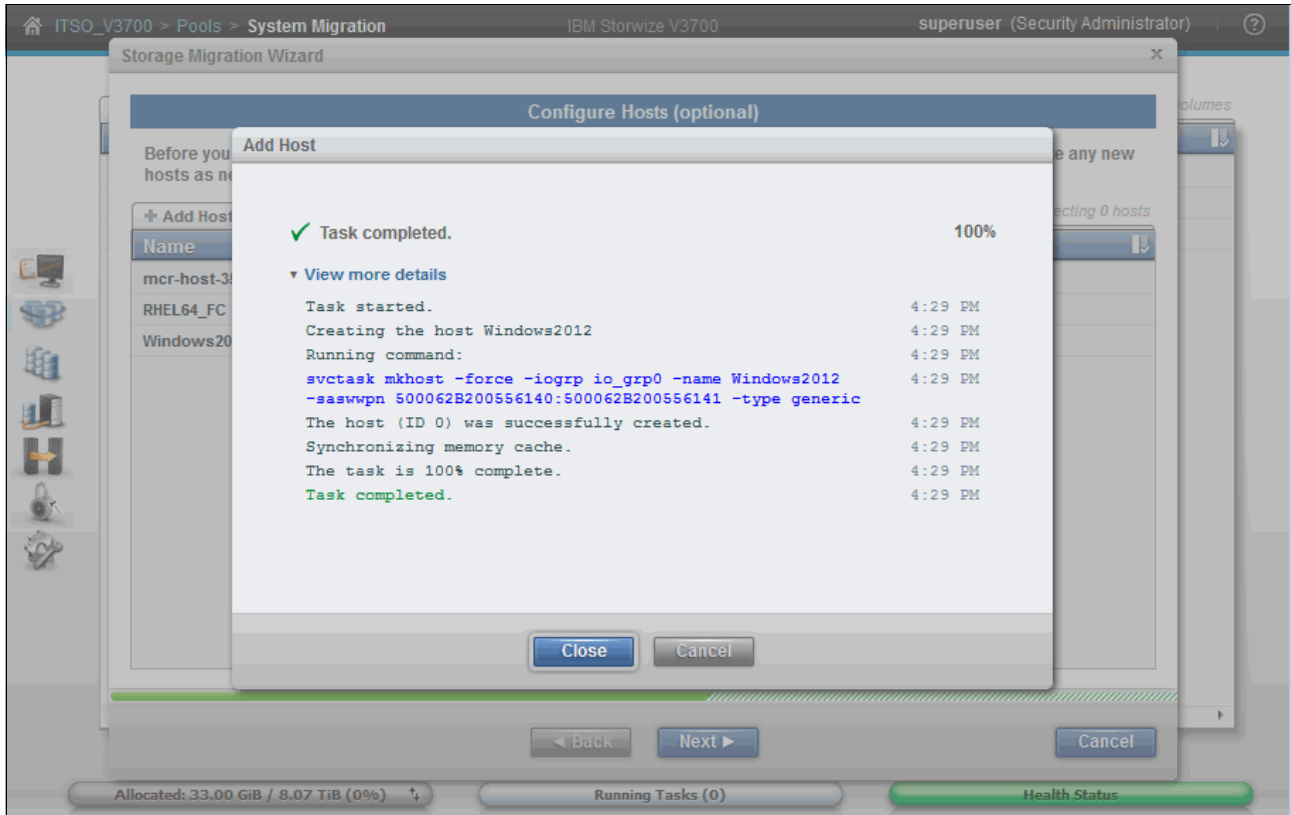

Figure 6-48 Create host task complete
5. Click **Add Host** to complete the task, as shown in Figure 6-48. Notice that the new host now displays in the background list.